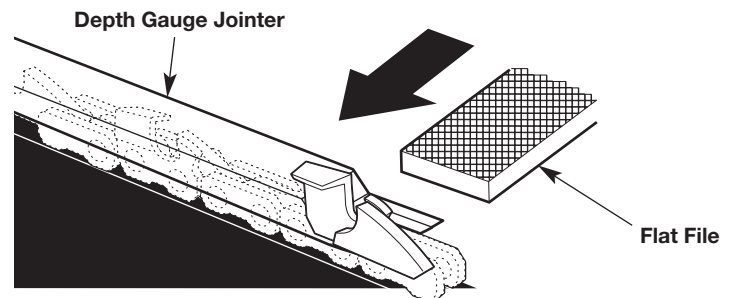

Fig. 34
- Use a depth gauge tool (not included) to measure the depth gauge clearance (Fig. 34) of each cutter. The depth gauge clearance must be maintained at 1/32 inch (0.6 mm). The depth gauge clearance determines the depth at which the cutter enters the wood during operation and the size of the wood chips produced. Too much clearance increases the chance of kickback. Too little clearance decreases the size of the wood chips, thus decreasing the ability to cut.
- Use a 0.025 inch (0.635 mm) depth gauge jointer and a flat file (tools not included) to lower the depth gauge to the correct clearance (Fig. 34).